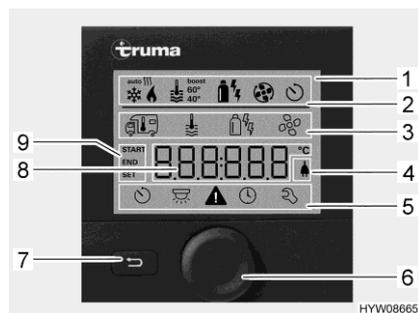
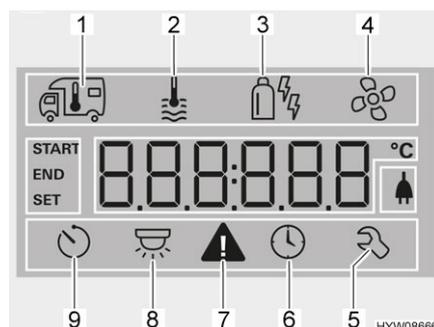

Fig. 206 Operating unit with displays
Fig. 207 Display (operating unit)
- Status line (Fig. 206,2)
- Upper menu line (Fig. 206,3)
- Display area (Fig. 206,8)
- Lower menu line (Fig. 206,5)
- Press and hold the rotary push button (Fig. 206,6) for approx. 3 seconds. Both menu lines (Fig. 206,3 and Fig. 206,5) are displayed. The first symbol flashes.
- Turn rotary push button (Fig. 206,6) until the required menu symbol flashes.
- Press rotary push button to save the value set. If you do not wish to change the value originally set: Press back button (Fig. 206,7).
- Turn rotary push button (Fig. 206,6) until the heater menu symbol (Fig. 207,1) flashes.
- Press rotary push button to save the value set. The symbol in the status line (Fig. 206,2) flashes until the room temperature set is reached. If you do not wish to change the value originally set: Press back button (Fig. 206,7).
- Turn rotary push button (Fig. 206,6) until the hot water menu symbol (Fig. 207,2) flashes.
- Press rotary push button to save the value set. The symbol in the status line (Fig. 206,2) flashes until the hot water temperature set is reached. If you do not wish to change the value originally set: Press back button (Fig. 206,7).
- Turn rotary push button (Fig. 206,6) until the menu symbol operating mode (Fig. 207,3) flashes.
- Press the rotary push button to save the set operating mode. To revert to the original setting: Press back button (Fig. 206,7).
- Turn rotary push button (Fig. 206,6) until the fan menu symbol (Fig. 207,4) flashes.
- Turn rotary push button (Fig. 206,6) until the timer menu symbol (Fig. 207,9) flashes.
- Press rotary push button. The timer is activated. The timer symbol (Fig. 207,9) flashes when the timer is programmed and active.
The warning symbol (Fig. 207,7) flashes in the event of a warning. The heater continues to operate. In the event of only a temporary fault, the warning symbol goes out automatically.